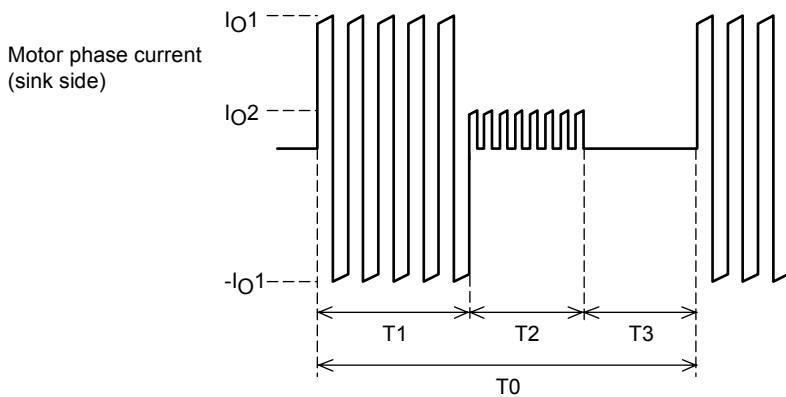
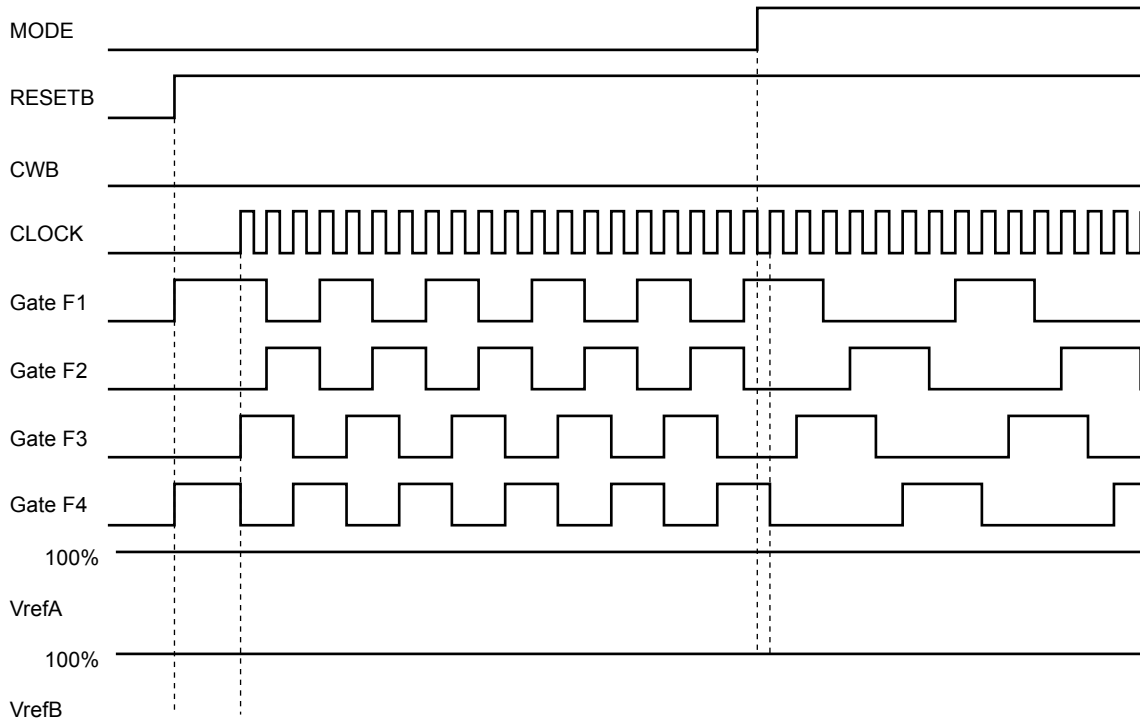

Figure 4 Motor Current Timing
Figure 5 Hybrid IC internal average power dissipation,  $P_D$  - Motor current,  $I_{OH}$
As shown in figure 6, the value of ΔTc increases as the hybrid IC internal average power dissipation PD increases. As shown in figure 5, PD increases with the motor current. Here we describe the actual PD calculation using the example shown in the motor current timing chart in figure 4.
Since there are periods when current flows and periods when the current is off during actual motor operation, PD cannot be determined from the data presented in figure 5. Therefore, we calculate PD assuming that actual motor operation consists of repetitions of the operation shown in figure 4.
Note that figure 4 presents the concepts here, and that the on/off duty of the actual signals will differ.
While the operating range when a heat sink is not used can be determined from formula (I) above, figure 5 is merely a single example of one operating mode for a single motor.
For example, while figure 5 shows a 2-phase excitation motor, if 1-2 phase excitation is used with a 500Hz clock frequency, the drive will be turned off for 25% of the time and the dissipation PD will be reduced to 75% of that in figure 5.